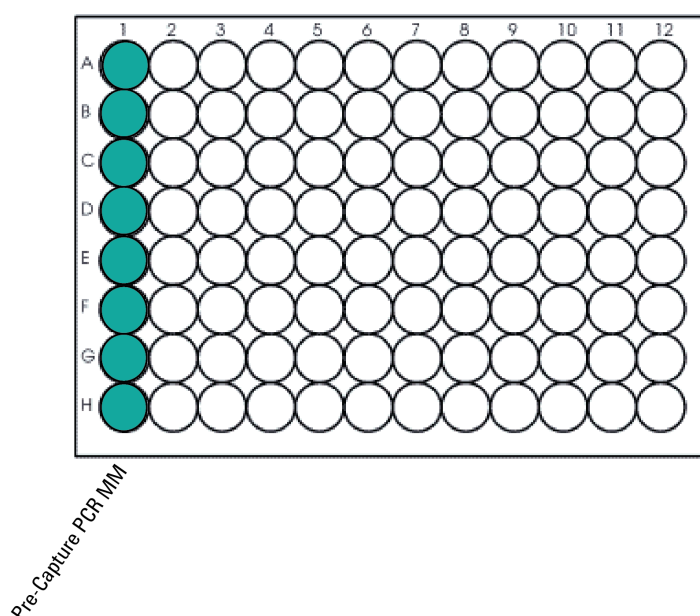

Figure 8 Configuration of the **Armadillo** master mix source plate for protocol Pre-CapPCR_XT_HS2_ILM
- 2 Using an **Armadillo** master mix source plate, add the volume of PCR master mix indicated in Table 47 to all wells of column 1 of the master mix source plate. The final configuration of the master mix source plate is shown in Figure 8.